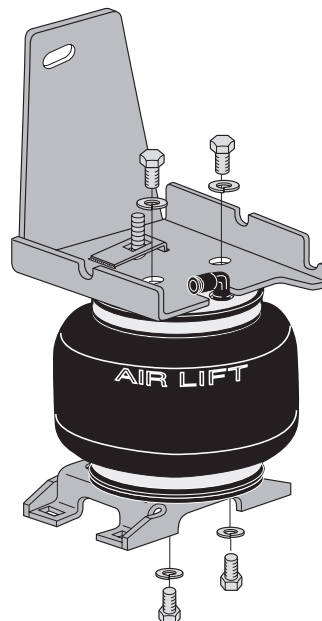

fig. 3
5. Use the lower bracket template provided at the back of the manual to determine the proper mounting location for the bellow. Use the holes marked 'C' for mounting. Attach lower bracket (C) and backer plate to the bottom of the bellow. Attach so that the bracket offsets to the outside of the axle. Use two bolts (F) and lock washers (L). See Figure 3.